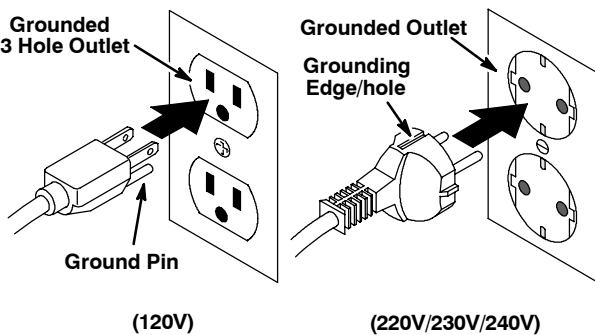

FIG. 2
1. Plug the power cord into a grounded wall outlet (Figure 2).